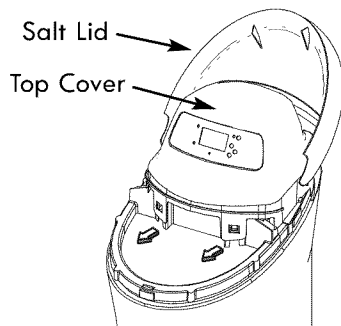

Figure 3
4. Remove the top cover. Pull outward on the two tabs to release top cover (see Fig. 3). Set the cover and salt lid aside so they will not get scratched or broken.
After installing your water softener, put the covers on. Angle the covers so the top cover clips onto the back first, then bring down in front and clip on the tabs inside the rim and lower the salt lid closed (See Fig. 3).